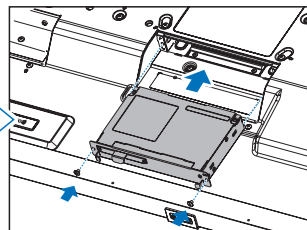

Figure 4
4. Insert the Option Board into the monitor and fix it with the removed screws (**Figure 4**).